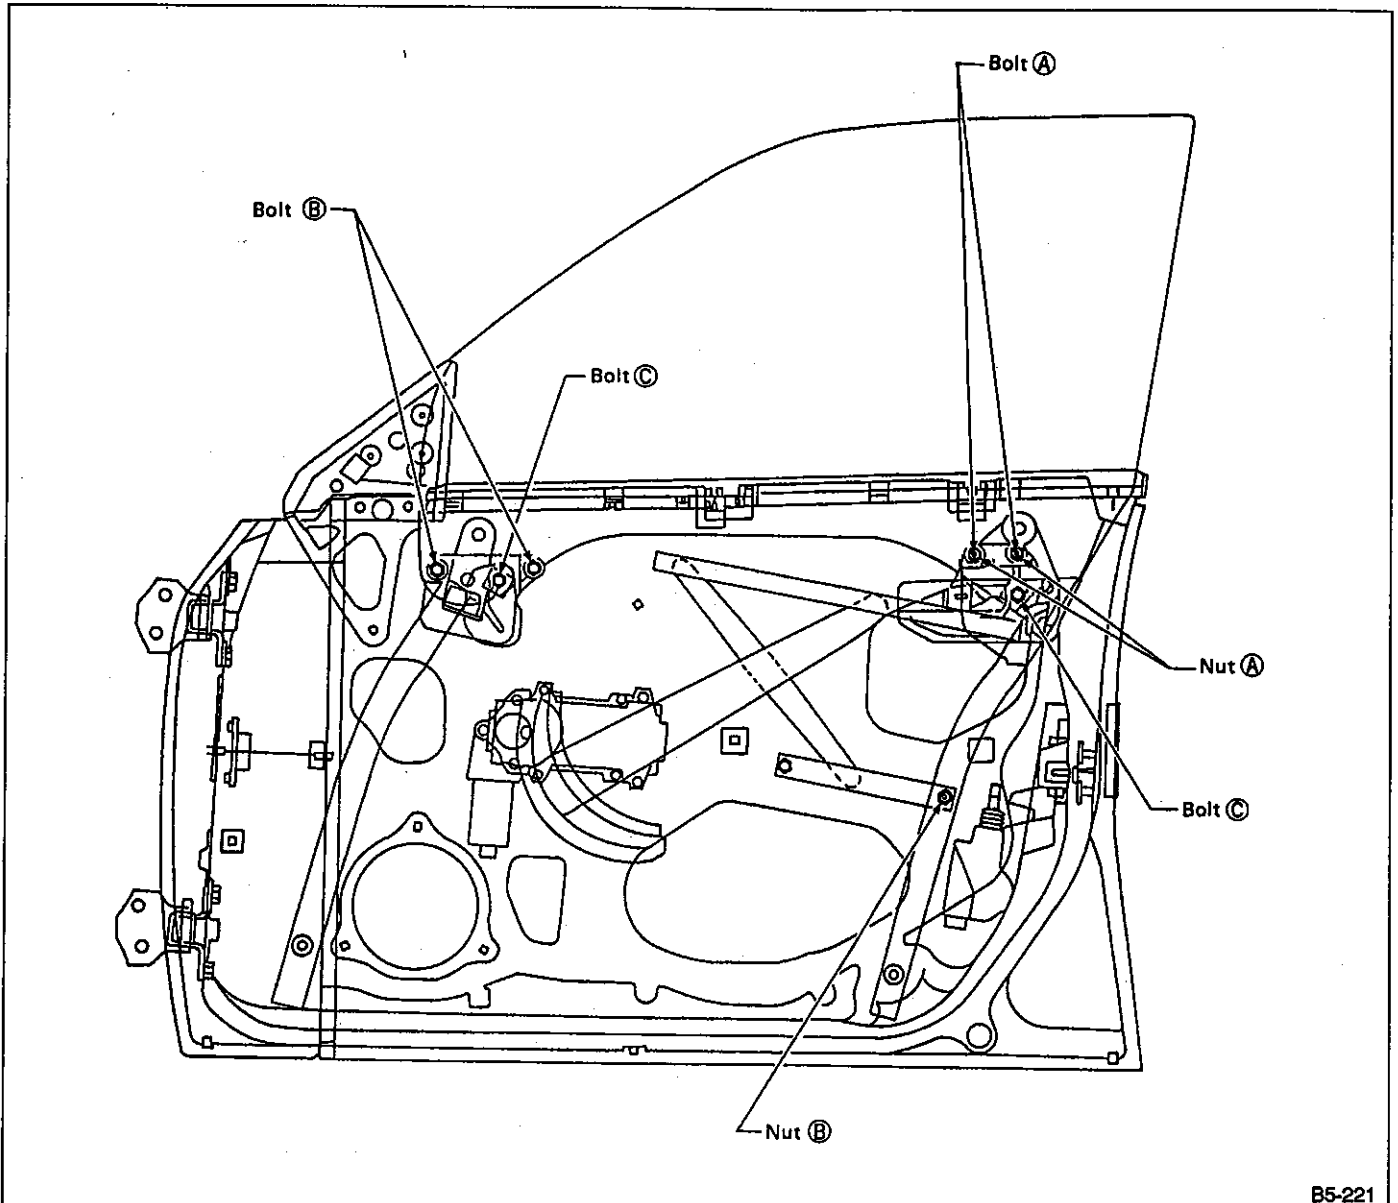

Fig. 68
- (3) If glass tilts to far rearward, loosen nut (B) in figure 68 and adjust glass to be parallel with center pillar.
- (3) Loosen nut (A) in figure 68 and adjust glass to center pillar.
- (1) Loosen bolts (C) in figure 68.
- (2) Increase the upward travel of window glass up to the position where upper edge just touches weather-strip surface with door closed.